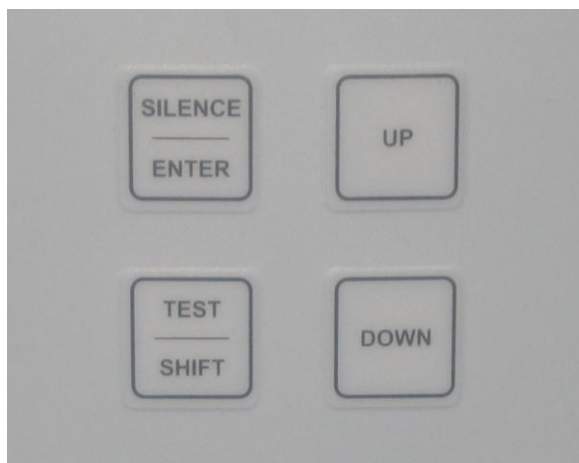

Figure 3-Control Module keypad
- 2.1.2 The Silence/Enter button (see Figure 3), is used to Silence the buzzer when the Panel is in alarm. When in Program mode it is also used to Enter commands.
- 2.1.3 The Test/Shift button (see Figure 3), is used to run the self test and to Shift a digit to the left when in program mode.
- 2.1.4 The Up button (see Figure 3), is used to increment the right digit up when in program mode. It is also used to command any 8-Transducer Module to display the next sensor.
- 2.1.5 The Down button (see Figure 3), is used to increment the right digit down when in program mode. It is also used to command any 8-Transducer Module to display the next sensor.
- 2.2.2 **Alarm State** - When an alarm condition occurs, one LED will turn red, and the audio alarm will be activated. Actual pressure and vacuum levels can be observed on the digital display at all times. The visual indicator will remain red until the alarm condition is cleared. The audio indication will remain active for the duration of the alarm condition unless silenced by the alarm silence button (see Figure 3) on the Control Module.